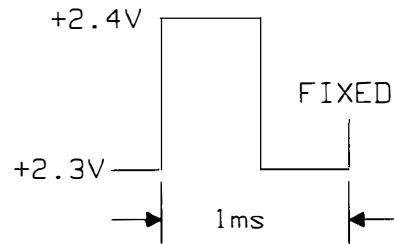

Figure 10.4-8. Shaper IC Output (FIXED)
5. Check the output on U401 pin 6 against Figure 10.4-8